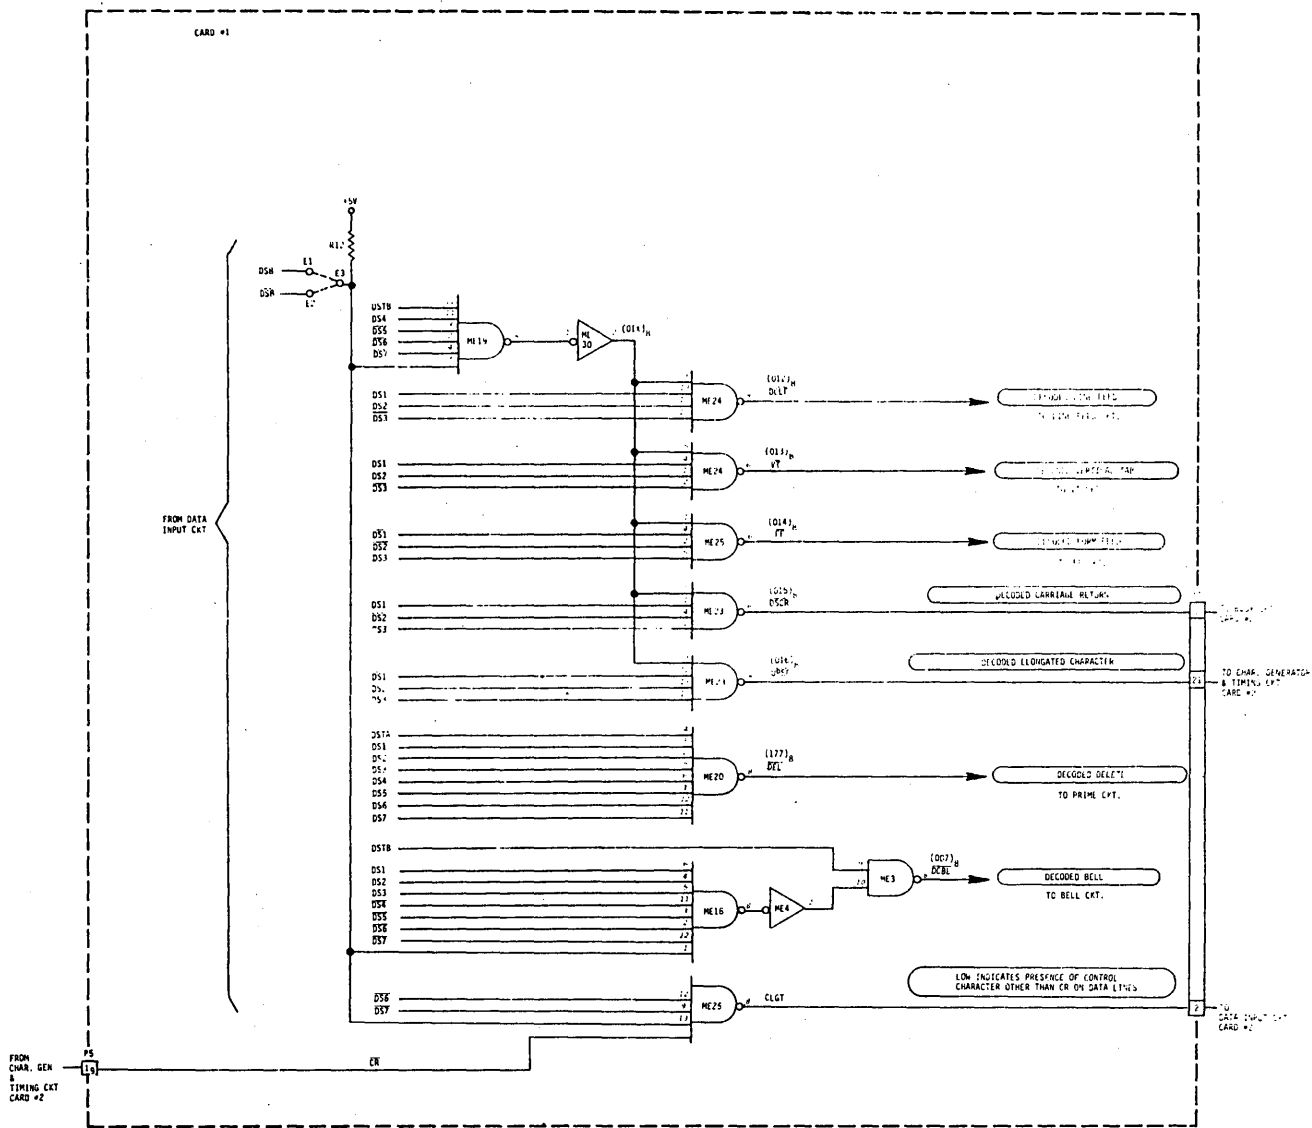

Figure 4-12. FUNCTION DECODER
4.4.6 FUNCTION DECODER (FIGURE 4-12)